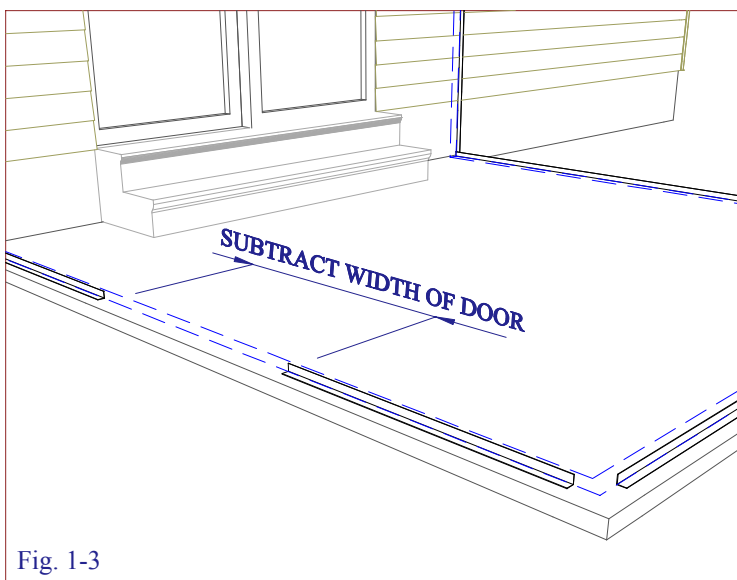

Fig. 1-3
-Determine the location of the door section and cut out the mounting angle at that location. (See Fig. 1-3)